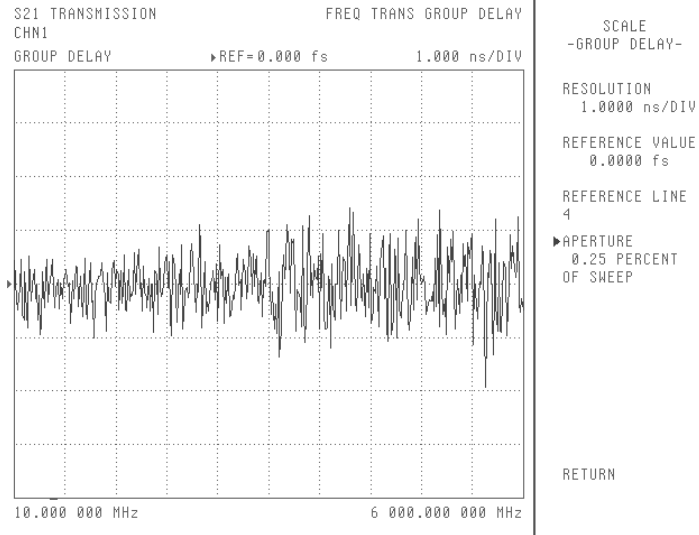

Figure 3-13. Frequency Translating Group Delay
16. Verify that the trace is within ± 3 ns. Refer to Figure 3-13.